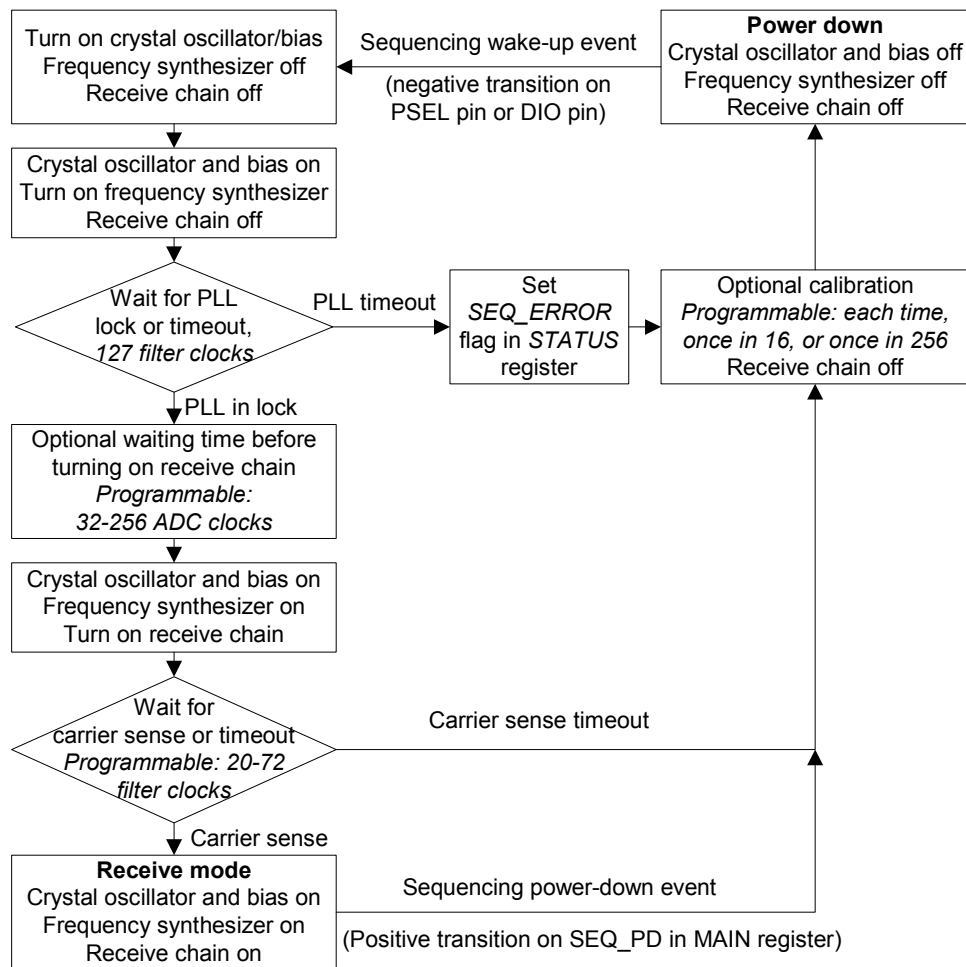

Figure 21. Automatic power-up sequencing flow chart
**CC1021** has a built-in automatic power-up sequencing state machine. By setting the **CC1021** into this mode, the receiver can be powered-up automatically by a wake-up signal and will then check for a carrier signal (carrier sense). If carrier sense is not detected, it returns to power-down mode. A flow chart for automatic power-up sequencing is shown in Figure 21.
#### Notes to Figure 21: